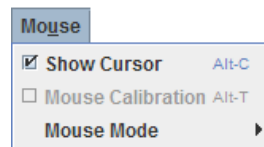
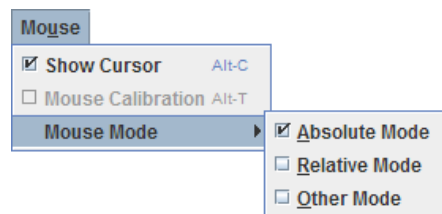

Figure 49: Remote Console Mouse Menu on EPSP Platforms Based on Intel® Xeon® Processor E5 4600/2600/2400/1600/1400 Product Families
Figure 50: Remote Console Mouse Menu - Mode selection on EPSP Platforms Based on Intel® Xeon® Processor E5 4600/2600/2400/1600/1400 Product Families
- **Mouse Mode.** This option is only available on EPSP Platforms Based on Intel® Xeon® Processor E5-4600/2600/2400/1600/1400 Product Families. See Figure 49. This allows you to select the mouse mode being used. You can select Absolute, Relative, or Other as shown in Figure 50. For a description of these modes, see section 7.3.9. Note that the functionality of this option is the same as changing then saving the mode on the Mouse Mode page. Any selections that you make will be saved for the next time when the remote console window is opened.